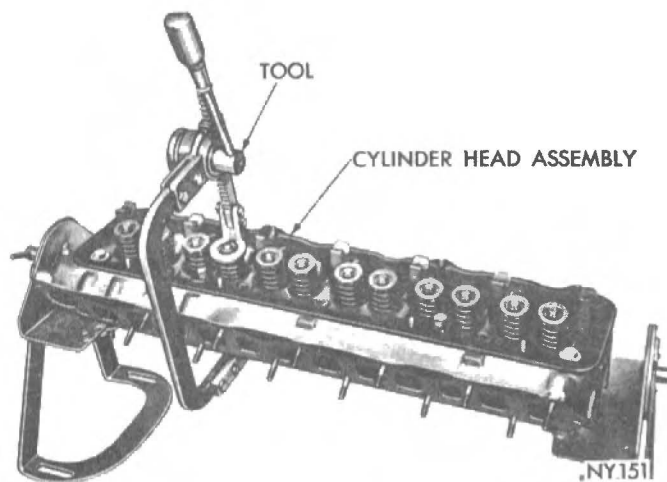

Fig. 10 - Compressing valve springs (Tool C-3422).
(1) With cylinder head removed, compress valve springs using Tool C-3422 (Fig. 10).